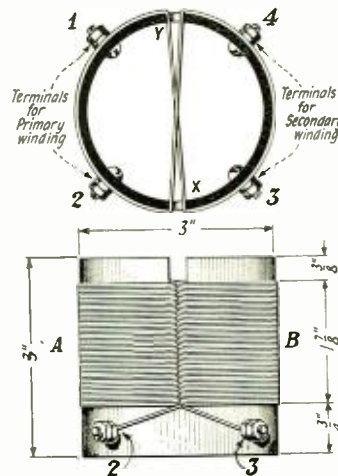

Figure 2
through from one end to the other as the tubing would then be in two sections, therefore the 3/4-inch spacing is left at one end to make the tube self-supporting. The windings consist of a primary and a secondary wound with No. 24 double cotton-covered copper wire. There are 10 turns in the primary winding and 40 turns in the secondary. Four binding posts for the terminal connections to the two windings are mounted at one end of the tube as shown in figures 2 and 3. Two for the primary winding are mounted at the bottom of section (A) and two for the secondary at the bottom of section (B). For the purpose of discussion these are numbered 1, 2, 3 and 4, respectively. Good serviceable binding posts may be made from 5/8-inch 8/32 round head brass machine screws with nuts and washers to fit.
binding posts 1 and 2 are the primary winding terminals, and since binding posts 3 and 4 are the secondary winding terminals, we thus have the beginning of both windings, with the two wires connected to terminals 2 and 3 as described above. Starting with the wire attached to terminal No. 2, wind in a counter-clockwise direction until you come to the slot, marked (x) in figure 2. Pass the wire through this slot and out through the slot on the other side of the tube, marked (y) in figure 2. Now continue in a clockwise direction past binding post 4, and when you come to binding post No. 3, pick up the beginning of the secondary winding and wind it in parallel with the primary winding, both wires side by side. Continue the double winding until you come to the slot (x), pass the wires through this side and out the other side at (y), proceeding with the winding in a counter-clockwise direction on this side. When ten turns have been wound on, drill a small hole in the tube at the tenth turn and in line with binding post No. 1. Pass the end of the wire being used for the primary winding through this hole and connect it to binding post No. 1.